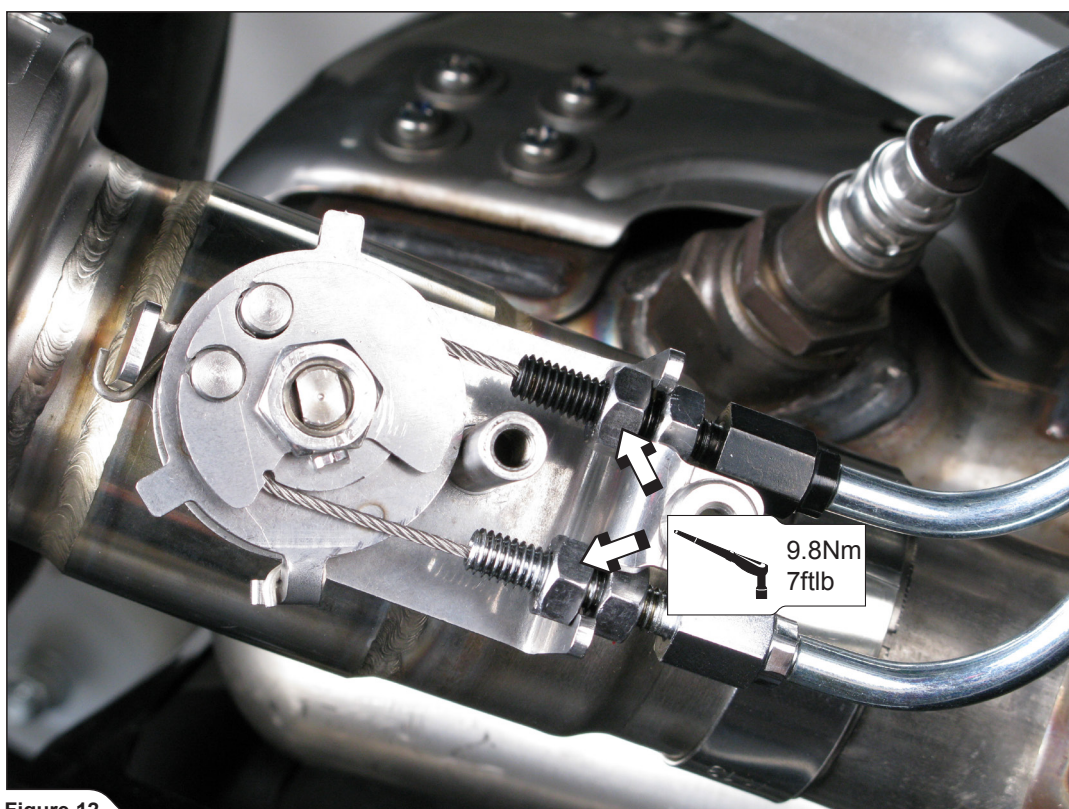

Figure 12
- Tighten the marked adjusters lock nuts to a specified torque (Figure 12).